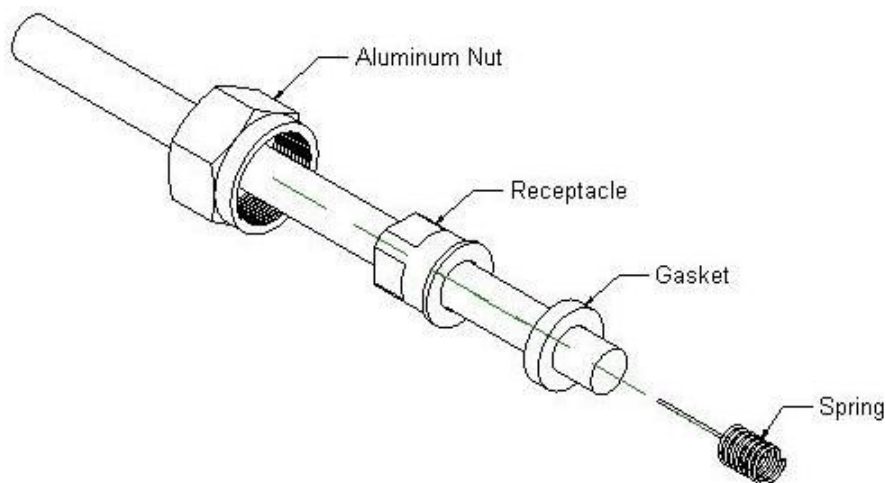

Figure 15: Spark Plug Wire Hardware Assembly
- iii. Slide the aluminum nut, receptacle, and gasket on the wire. See Figure 15 for the correct component stack-up.